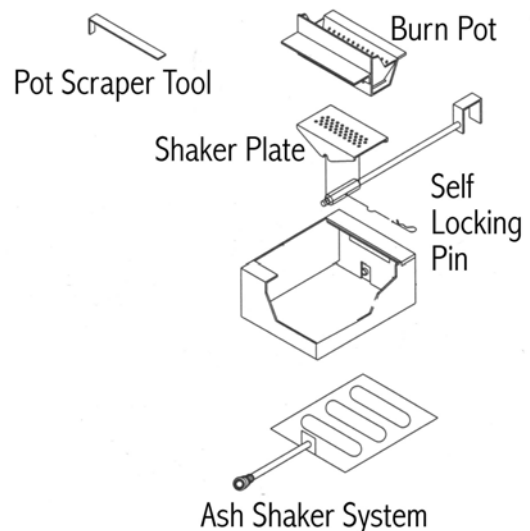
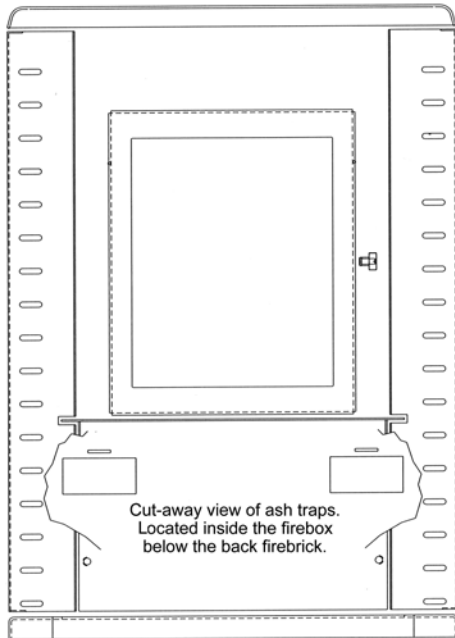

Figure 3
Figure 4.
1. Check grate bottom (See figure 3) to determine if holes are plugged. Clean as needed. With proper precautions the grate may be partially cleaned while the stove is hot. Follow these steps:
2. Remove ash buildup under the grate bottom daily. (See figure 3 on previous page. Ash shaker system.)
4. Check exhaust clean outs (Figure 4). Use scraper shown in (Figure 3) to scrape ash into ash pan. **IT IS CRITICAL THAT YOU KEEP ASH CLEAN OUT CLEAN FOR SATISFACTORY PERFORMANCE.**
2. The Pepin has 2 exhaust cleanouts located below the rear ceraboard. Remove covers and clean regularly. (*See figure 4 on page 9.*)
3. Clean burn grate holes at least weekly, remove the burn grate. Use a small metal object to clean out plugged holes. (*See figure 3 on page 6.*)
Figure 4 shows the location of the ash traps. Frequency of cleaning depends on the amount of fuel being burnt and the quality of the pellets. Fuel with low ash content is recommended. **Failure to clean the ash traps can cause the stove to become plugged with fly ash.**
1. **Spring Shutdown.** After the last burn in the spring, cool the stove. Remove all pellets from the hopper and the auger. Thoroughly clean the burn grate, burn grate box, ash pan and ash traps behind the ash pan. (To locate the ash traps see figure 4)